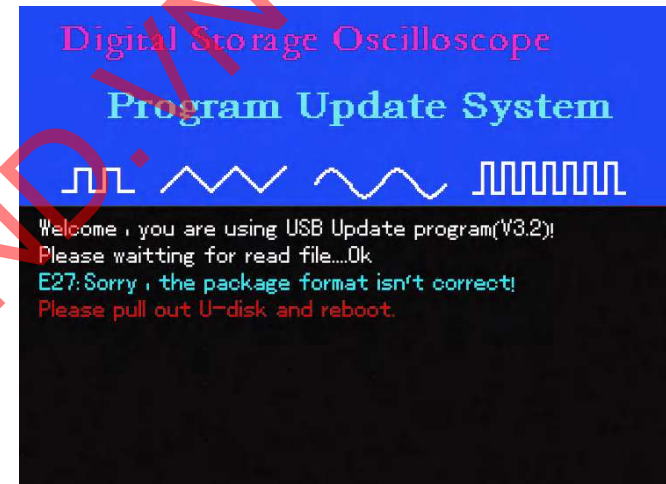

Figure 5-11
6. During upgrade, if the system reads that the format of the program upgrade pack document is different from that of the Oscilloscope, the prompt in Figure 5-11 will appear : “E27: Sorry, the package format isn’t correct! Please pull out U-disk and reboot.”